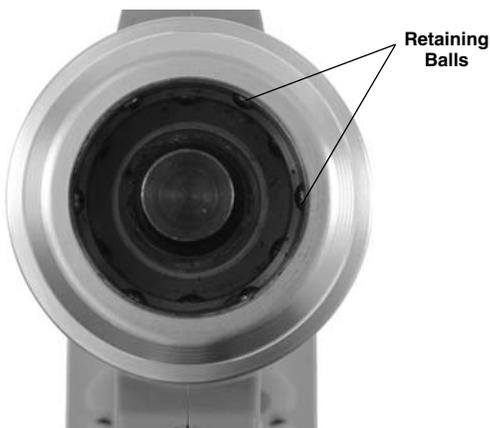

Figure 4 – Inside of QCS Coupling
- Confirm that the twelve (12) retaining balls in the QCS coupling are present in all openings and that there is no damage. *Figure 4* shows the inside of a complete and clean QCS coupling.